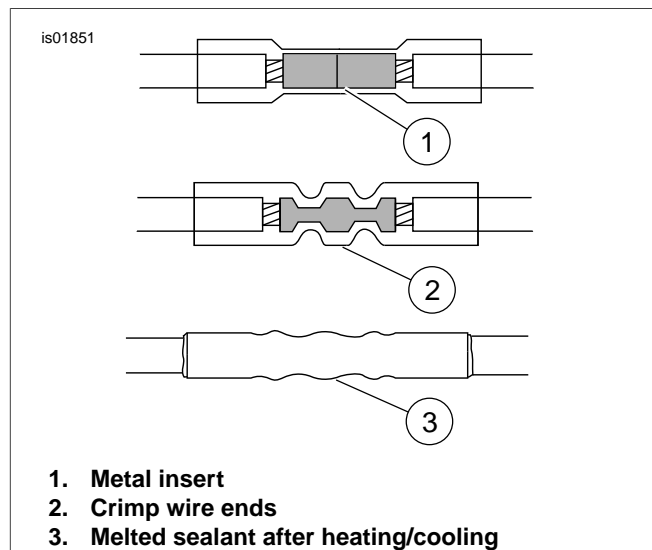

Figure 11. Install Sealed Butt Splice Connectors
7. See Figure 11. Insert headlamp wires into butt splice connector until the stripped ends are housed inside the metal insert (1).
8. Crimp the wires (2) within the connector using suitable crimping tool.